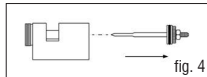

fig. 4
- 9) With a narrow nose pliers pull off the needle (Pos.9)(fig. 4)